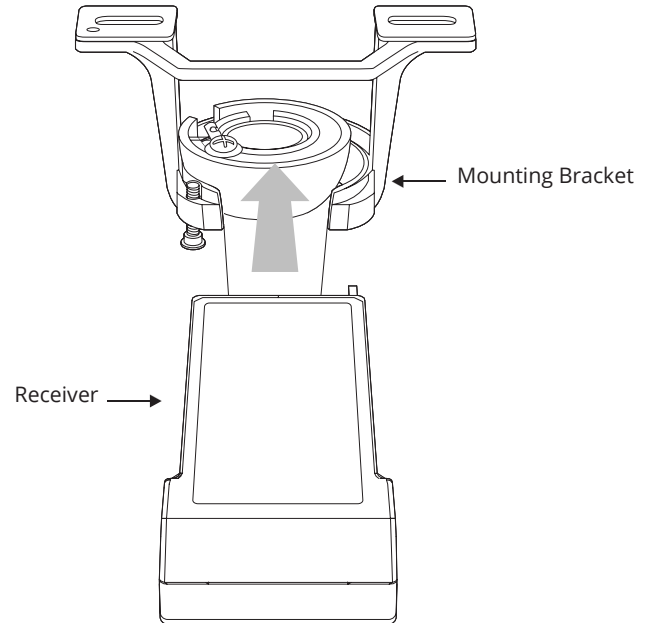

FIG. 10
1. Insert the receiver into the mounting bracket with the flat side of the receiver facing the ceiling (**FIG. 10**).